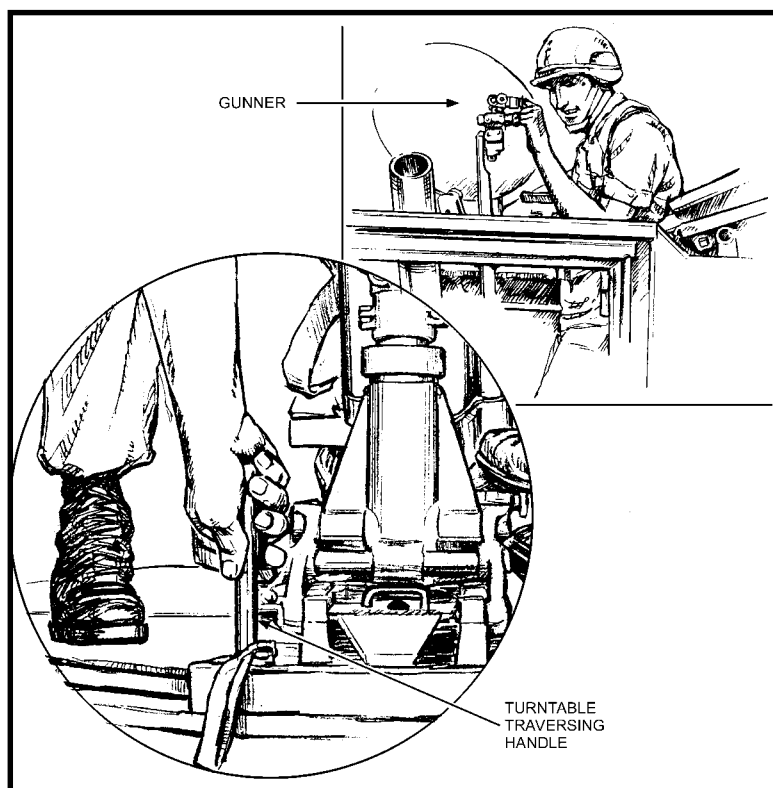

Figure 6-21. Gunner indexing the sight and assistant gunner unlocking the turntable traversing handle.
(1) When a deflection greater than 75 mils is announced in the fire command, the assistant gunner prepares the turntable to be traversed before firing the round.
(2) As soon as the deflection is announced, the gunner immediately indexes it on the sight (Figure 6-21). He ensures that the mortar is within two turns of center of traverse.